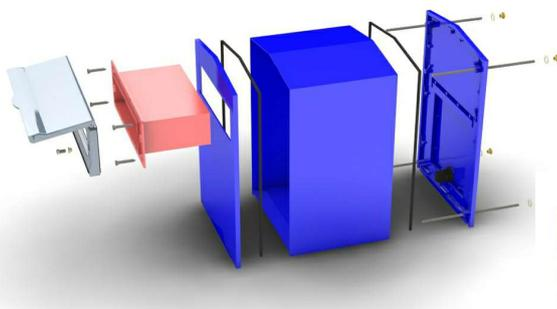

Fig 8
- Offer the container box over the chute and mark the locations of the securing holes. Remove the container, drill the holes with a 5.5mm drill and insert the rawl plugs. Seal any gaps between the chute and the brick wall with silicon. *Fig 7*. Place a bead of silicon around the chute hole and the top and sides of the collection box, do not seal the bottom edge. *Fig 8*. Locate the collection box over the chute and secure using the screws provided. Ensure that the silicon bead between the wall and container makes a good seal. Finally seal around the top and sides where the collection box meets the wall. Do not seal the bottom edge.
- Place a bead of silicon around the chute hole and the top and sides of the collection box, do not seal the bottom edge. *Fig 8*. Locate the collection box over the chute and secure using the screws provided.